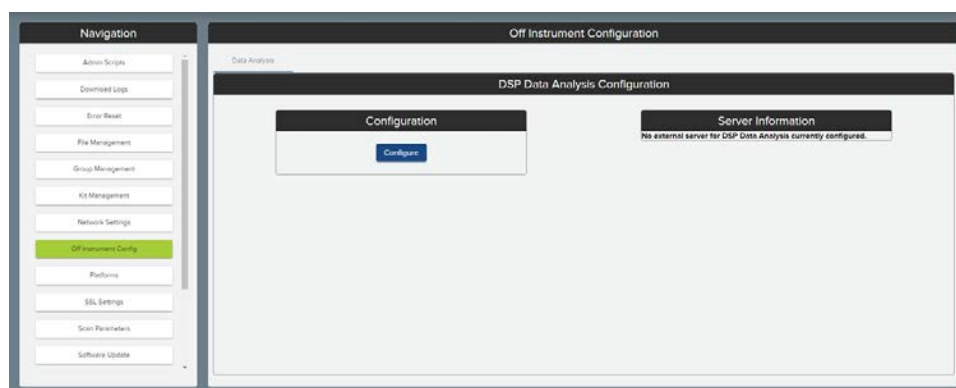

Figure 73: Off Instrument Configuration window
1. Click the **Configure** button (see Figure 73).